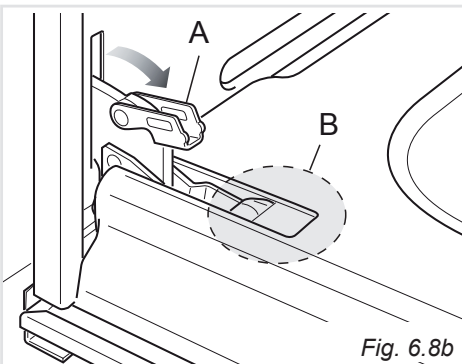
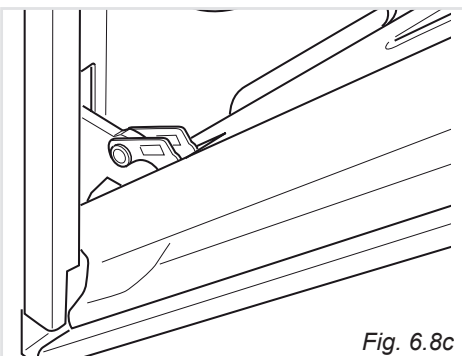

Fig. 6.8b
Fig. 6.8c
- Open the lever "A" completely on the left and right hinges (fig. 6.8b).
- Gently close the door (fig. 6.8c) until left and right hinge levers "A" are hooked to part "B" of the door (fig. 6.8b)